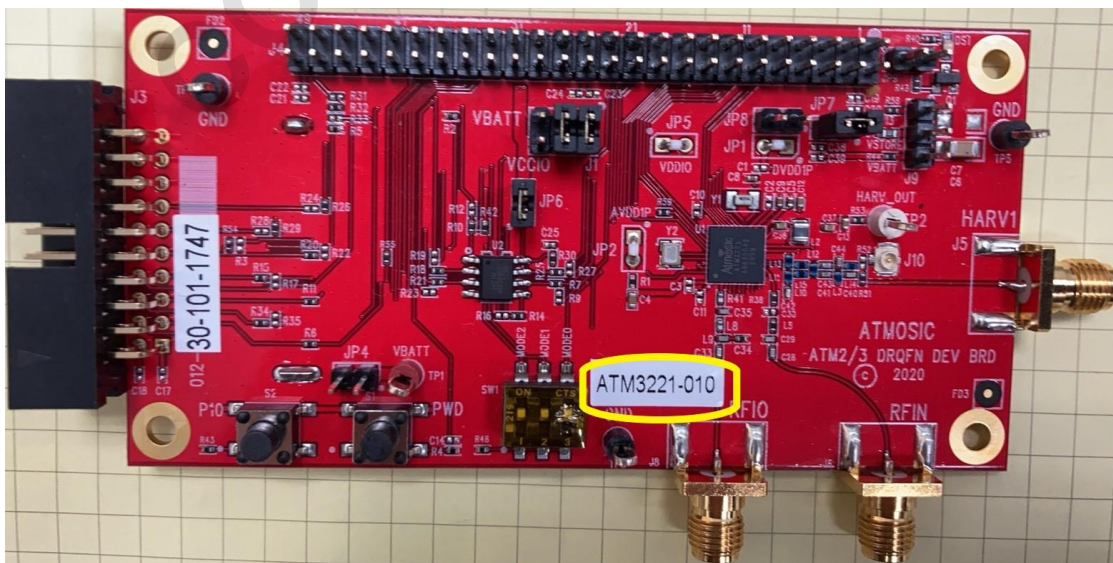

Figure 18 - Atmosic Product Code on the EVB
- Figure 18 - Atmosic Product Code on the EVB
All evaluation boards have a sticker that identifies the part number of the IC on the board. For example, the Atmosic EVB is labeled with ATM3221-010 as shown in Figure 18. It was assembled with an ATM32xx-x1x chip and to compile the project, the path is platform/atm3/ATM32xx-x1x. Refer to the Atmosic Chip Revisions Application Note for information regarding chip revisions.